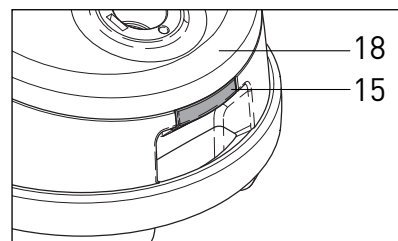
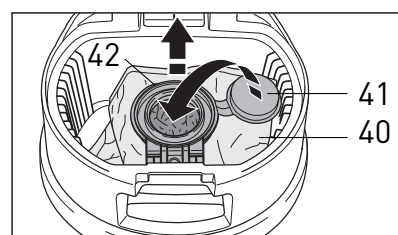

Figure 20
Figure 21
The Kombi nozzle (10) is adjustable for carpet or hard floors. To set for carpet, slide the up arrow button (36) to the right until it clicks into place. The hard floor dusting brush will raise up allowing the head to move over the carpet. To set for hard floors, slide the down arrow button (37) to the left until it clicks into place. The brush will lower to gently sweep your floors. **The slider in Figure 20 is set in the position for hard floors.** Remove the Kombi nozzle from the telescopic tube to clean. Fibers and hair can be pulled out of the bristles manually, or vacuum the bristles with the telescopic tube. The brush strip is removable for cleaning and replacement.
The Turbo nozzle (38) has an air-driven rotating brush for gentle brushing of carpets. The Turbo nozzle can be adjusted for high and low pile carpet. To adjust the head for high pile carpet, push the slider button (39) to the right. For low pile carpet, push the slider button (39) to the left. **The slider in Figure 21 is set in the low pile position.** Remove the Turbo nozzle from the telescopic tube to clean. Remove fibers and hair from the brush manually.
Changing the Filter Bag - Figures 20, 21, 22, 23 & 24
To change the filter bag (40), switch off the power and unplug the vacuum. Lift the cover release catch (#15, figure 20) and raise the filter bag cover (18). Seal the filter bag with the sealing cap (41). Lift the filter bag out of the holder by tilting the green collar (42) up and pulling it out of the holder as shown in figure 21.